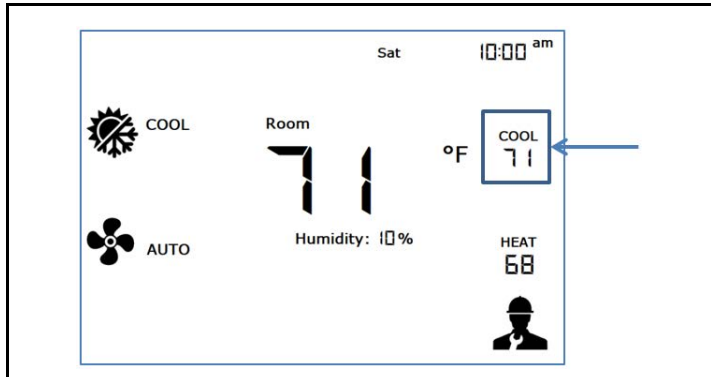
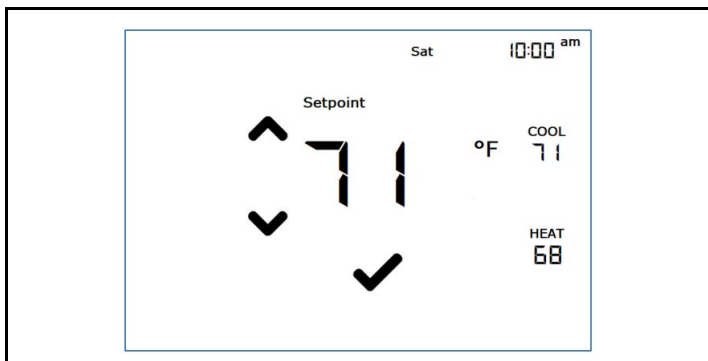

Figure 3-21 - Temperature Setpoint Access
Figure 3-22 - Temperature Setpoint Menu (either COOL or HEAT)
- To change either the heating or cooling setpoint, press the desired setpoint on the right side of the display (either COOL or HEAT, see **Figure 3-21**) and the corresponding setpoint configuration menu will appear with arrows (see **Figure 3-22**).